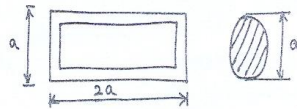

Fig. Q6(b)
- b. A thin walled box section having dimensions  $2a \times a \times t$  is to be compared with a solid circular section of diameter as shown in Fig Q6(b). Determine the thickness 't' so that the two sections have